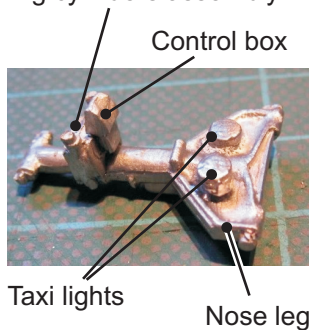

Figure 1
- (1) Attach the steering cylinders assembly to the front of the nose leg (See Figure 1).